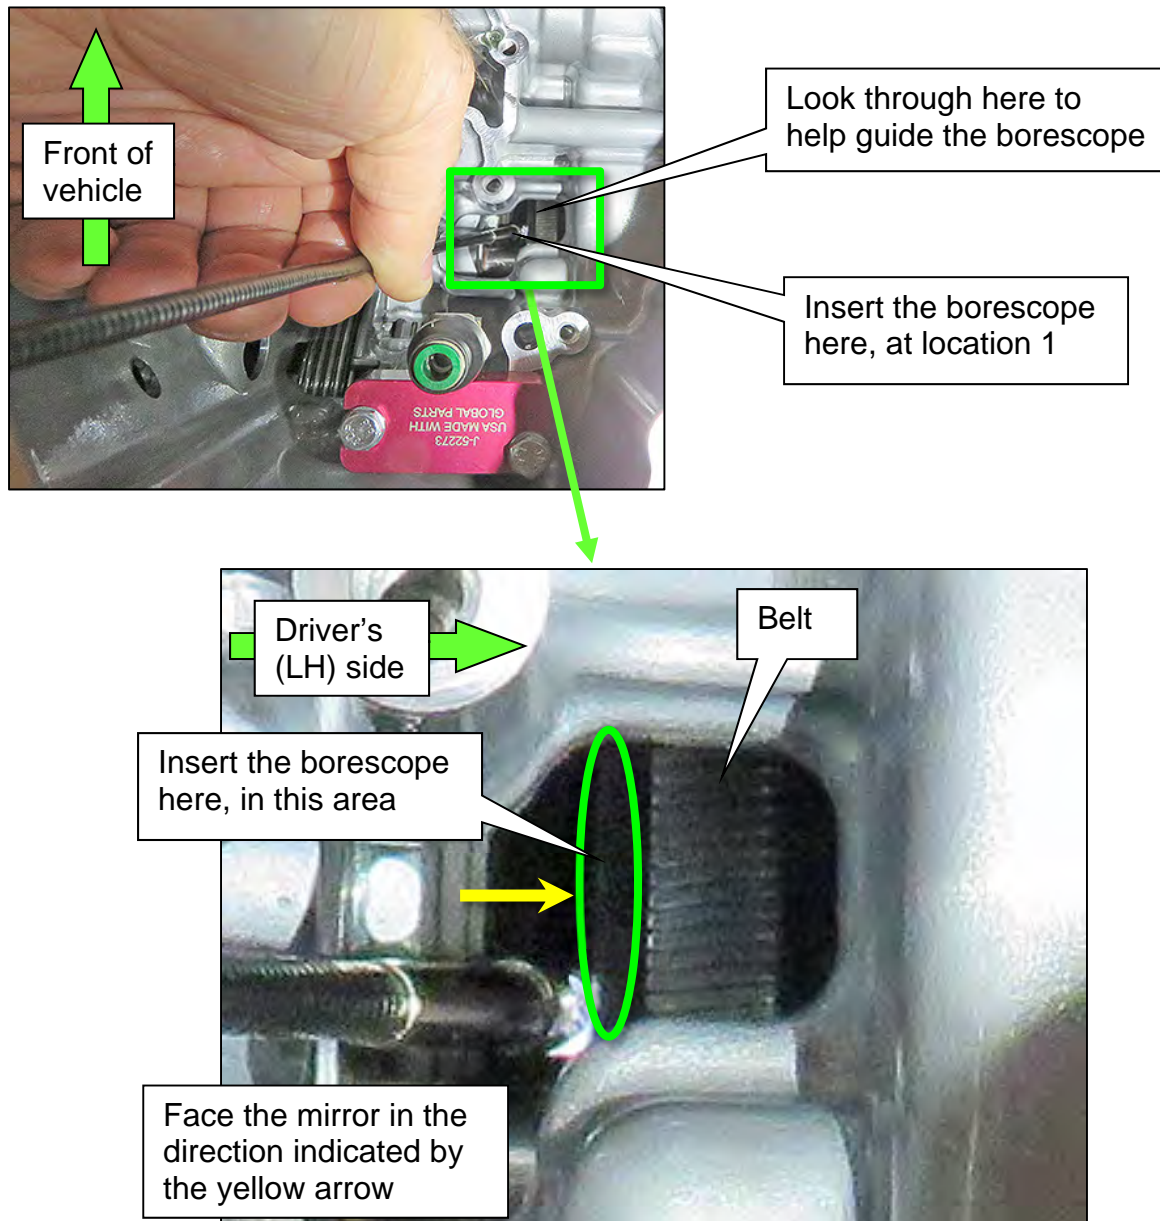

Figure 11
18. Insert the borescope, where shown in Figure 11, as follows:
- a. Face the mirror of the borescope toward the driver's (LH) side of the vehicle (CVT side cover).